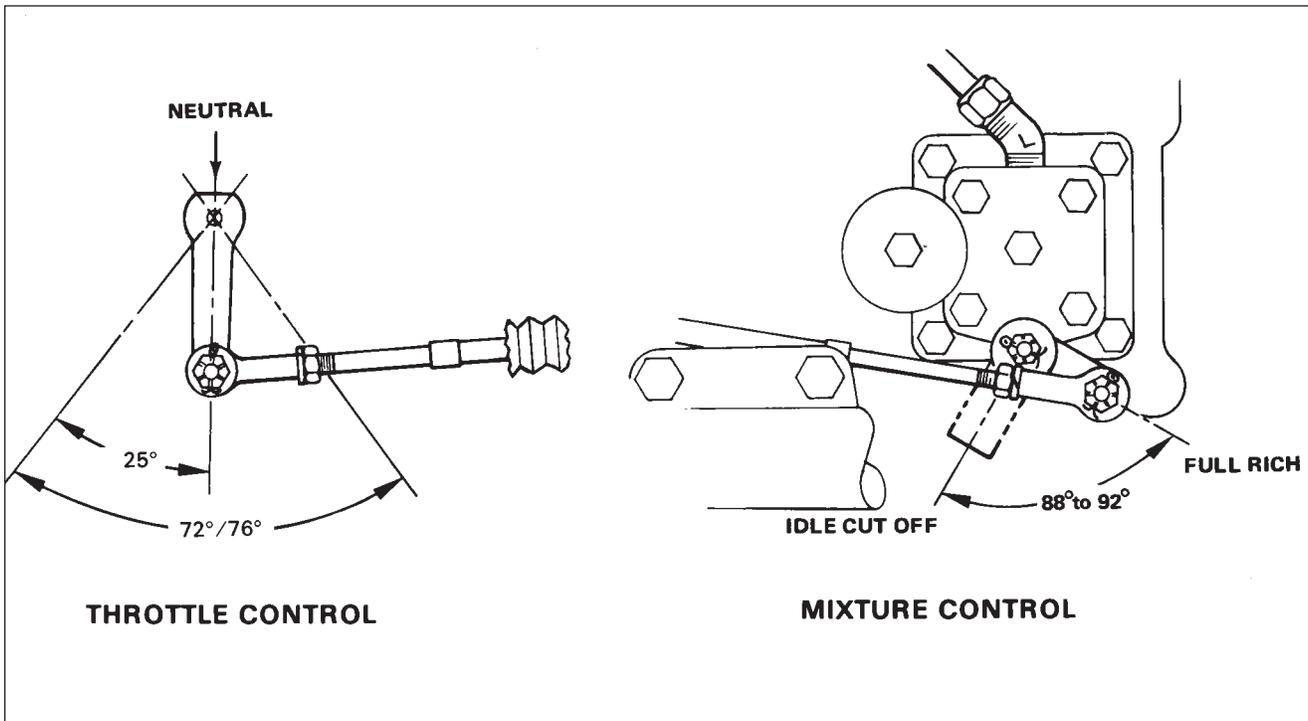

Figure 73-3. Engine Controls
**RIGGING THROTTLE AND MIXTURE CONTROLS.** (Refer to Figure 73-3.)